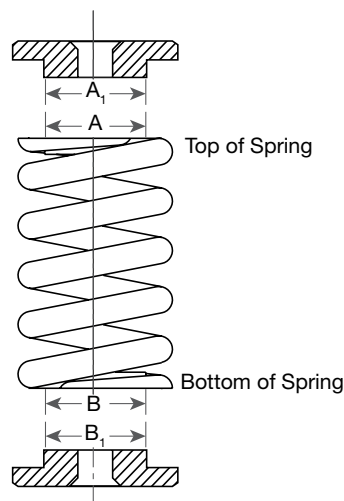

Figure 25: Spring Allowed Tolerance
- The maximum clearance between A and A₁ and between B and B₁ (see Figure 25) is more than:
- .031" (.79 mm) for springs with an inner diameter (ID) of less than 4" (100 mm).